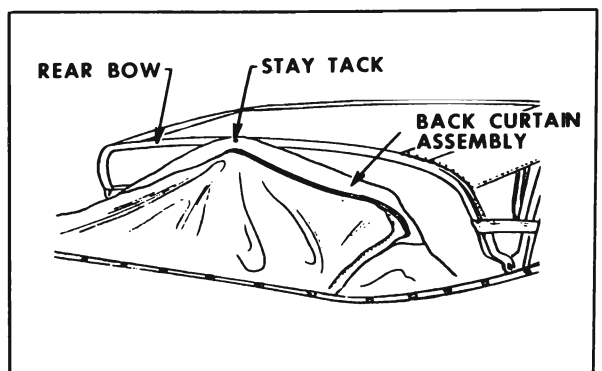

Figure 7-39—Securing Back Curtain
16. Secure back curtain assembly with one tack to rear bow to prevent damage to plastic sheet (see Figure 7-39).